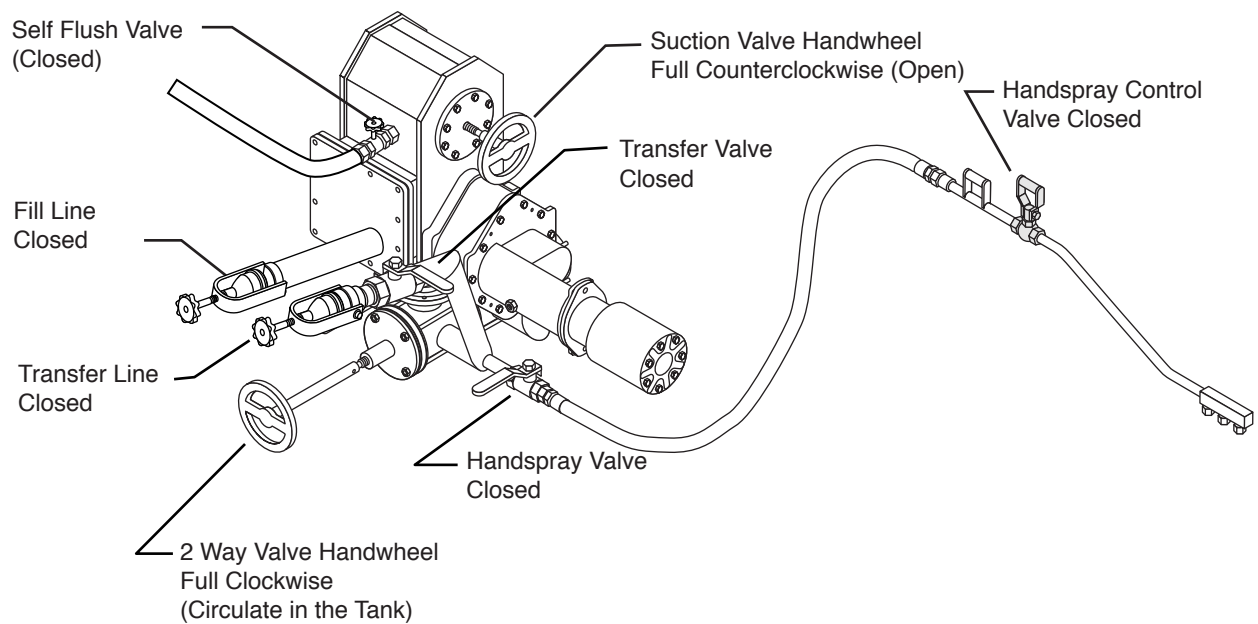

Figure 3. Valve Positions for Circulating in the Tank
1. Set all of the valve positions (see Figure 3).
1. Perform the procedure for circulating in the tank and continue circulating. (see Figure 3)